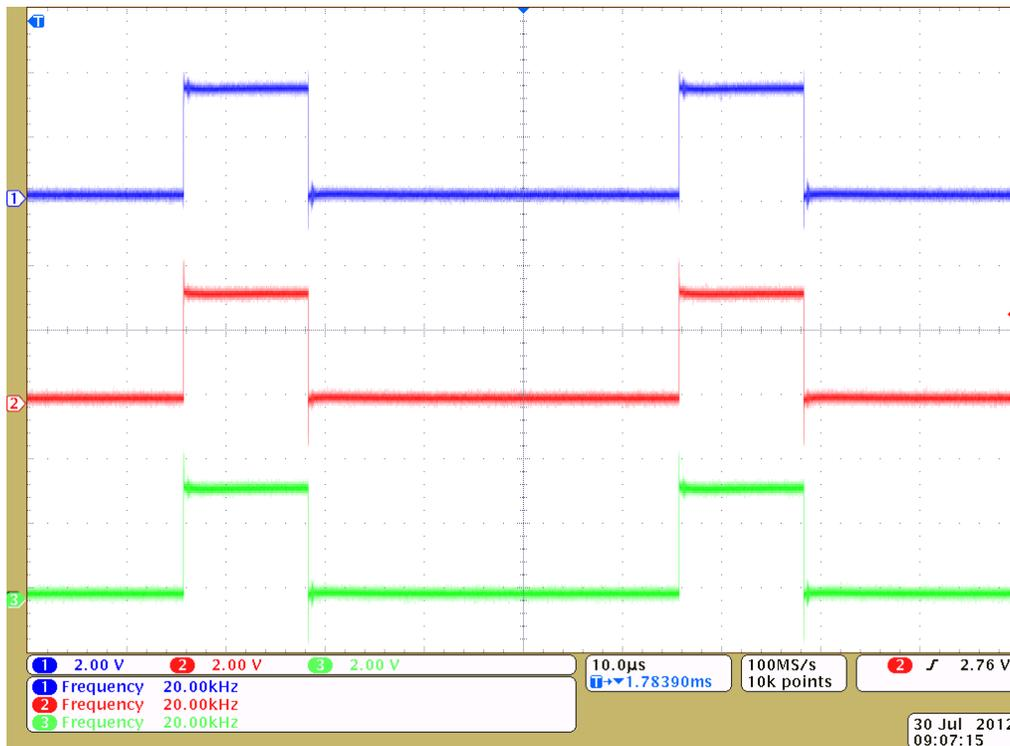

Figure 11. PWM Output on Pins 25, 26, and 28 of Connector J5
2. Set `gGUIObj.EnableFlg` to 1. (This starts the main interrupt service routine for the field-oriented-control algorithm, enables the ADC sampling of the motor-phase currents and DC-bus voltage, and enables the PWM outputs. For expected PWM outputs, see Figure 11. If no PWM output is observed, check that Continuous Refresh is enabled on the Expression window, and that the CPU is not halted.)